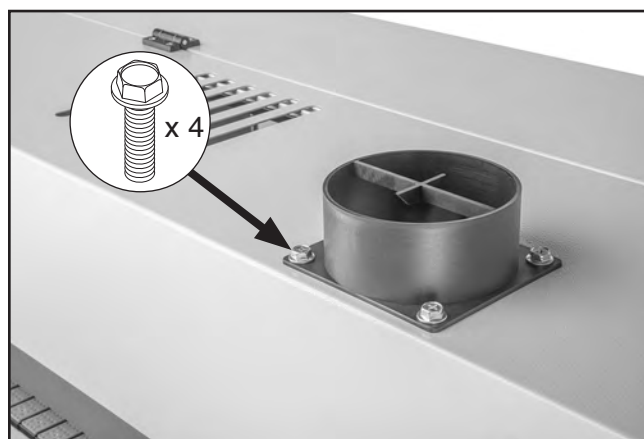

Figure 32. Upper dust port installed.
17. Install upper dust port using (4) pre-installed flange bolts (see **Figure 32**).